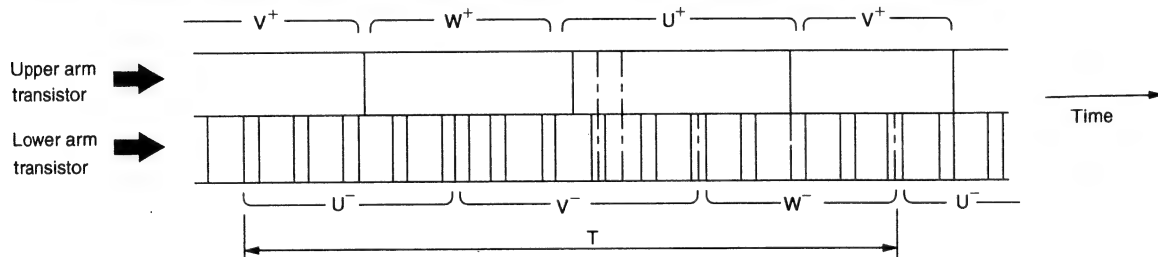

Fig. 13-2
- In the same way as compressor control, speed of outdoor DC fan motor is controlled by switching supplied current according to rotation position of fan motor magnet pole rotor: The switching order is shown in Fig. 13-2.
- Fig. 13-2 shows switching period of time T, and relationship with fan rotation speed is shown by the following formula: